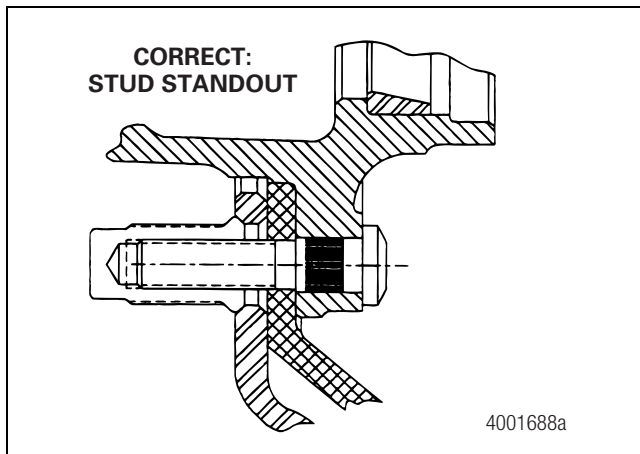

Figure 6.28
- A. Figure 6.28 shows correct stand-out.